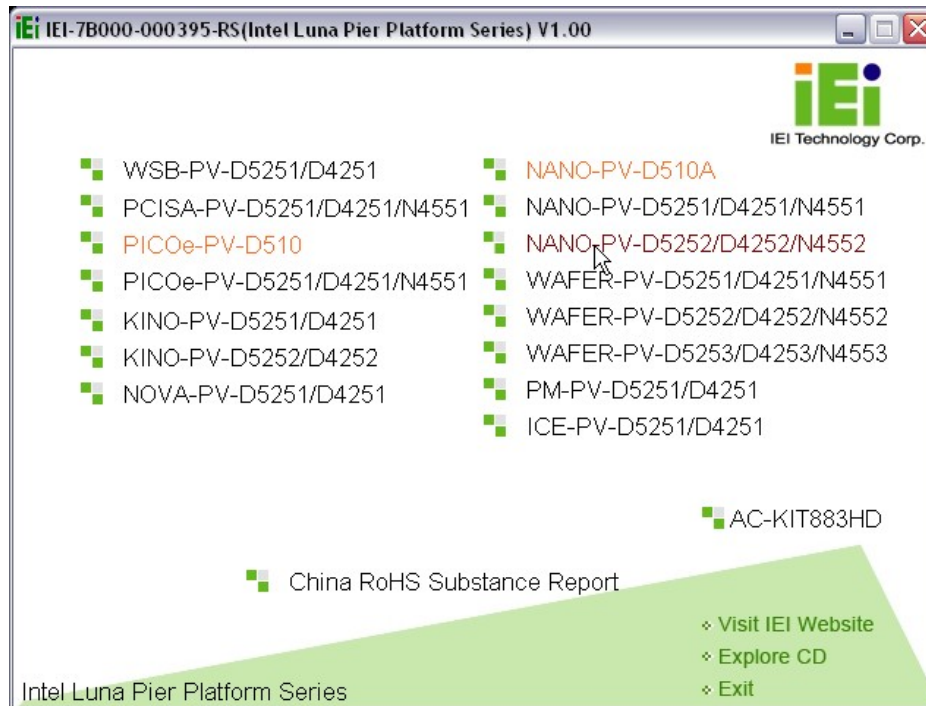

Figure 4-23: Introduction Screen
Step 2: The driver main menu appears (**Figure 4-23**).